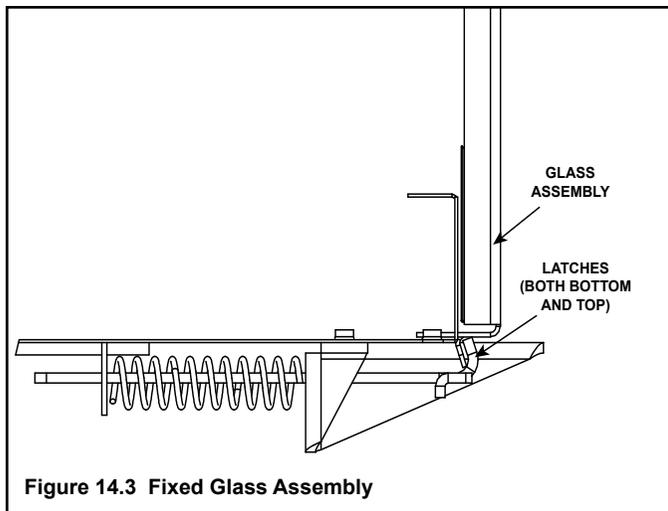

Figure 14.3 Fixed Glass Assembly
- Pull the two glass assembly latches out of the groove on the glass frame (see Figure 14.3).